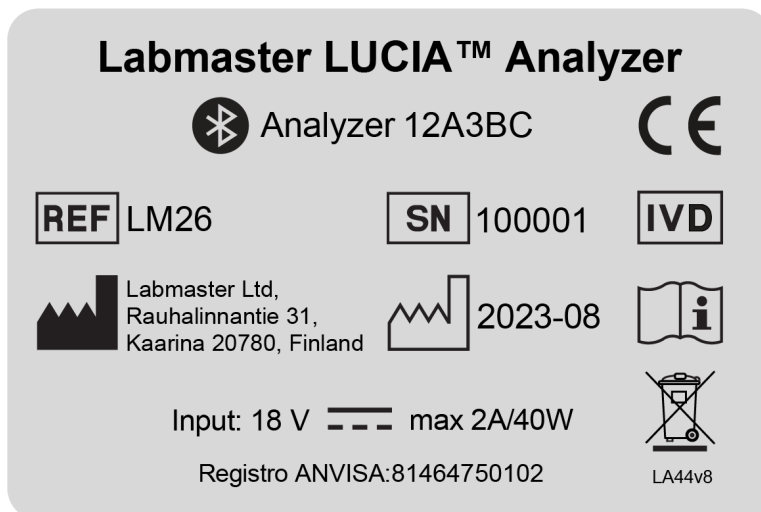

Figure 1. An example of Labmaster LUCIA™ Analyzer machine label
1.4	• Figure 1 updated.
Caution:- Before the LUCIA™ Analyzer is used for the first time, operator must ensure that the electrical specification shown on the LUCIA™ Analyzer machine label is suitable for the country/region in which the analyzer will be operated. See Figure 1.